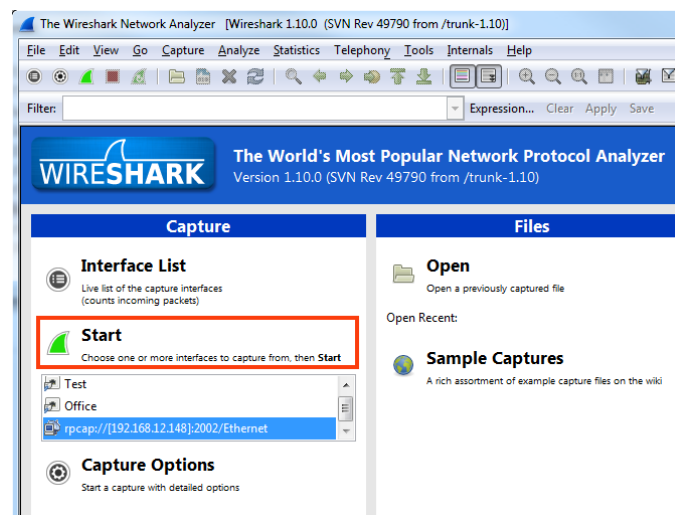

Figure 185: Start Remote Capture in Wireshark.
- Click the **Start** button as shown in Figure 185.